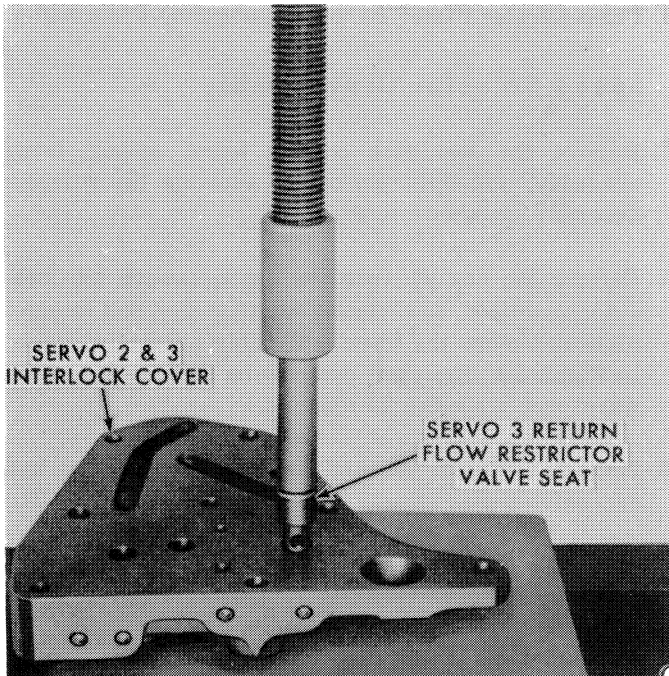

Figure 94
1. Press the servo 3 interlock valve seat into the cover, as shown in Figure 94.